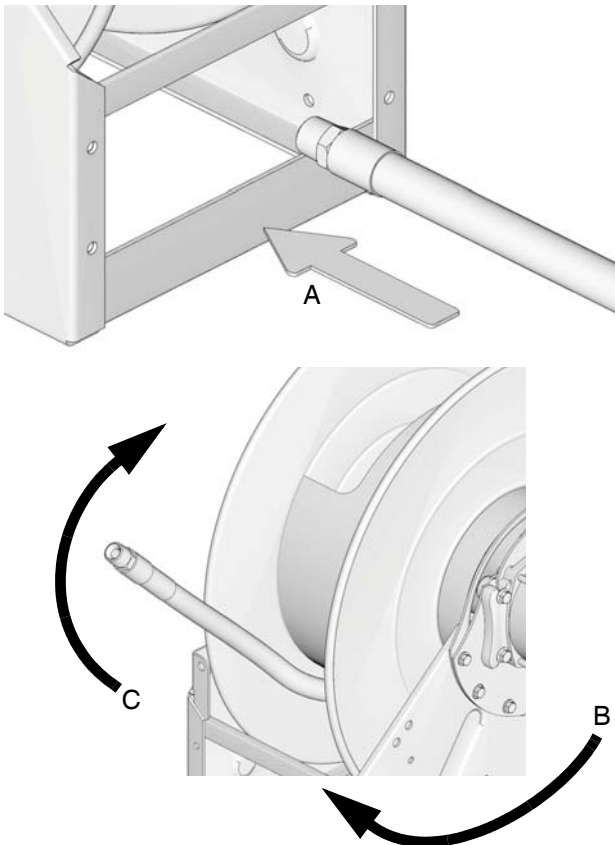

FIG. 77
1. Feed end of the hose, through the reel frame (A), then under the reel (B), and around the back (C) of the spool (FIG. 77).